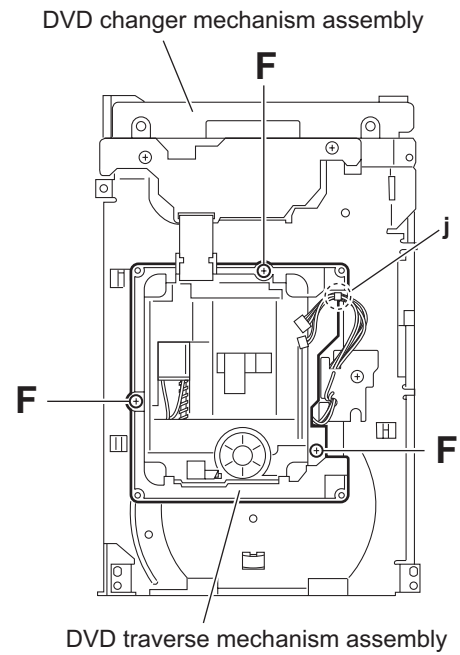

Fig.11
- (1) From the reverse side of the motor board, unsolder the four soldered sections **i** on the motor board.
- (2) From the forward side of the motor board, remove the motors.
3.2.6 Removing the DVD traverse mechanism assembly (See Fig.11)